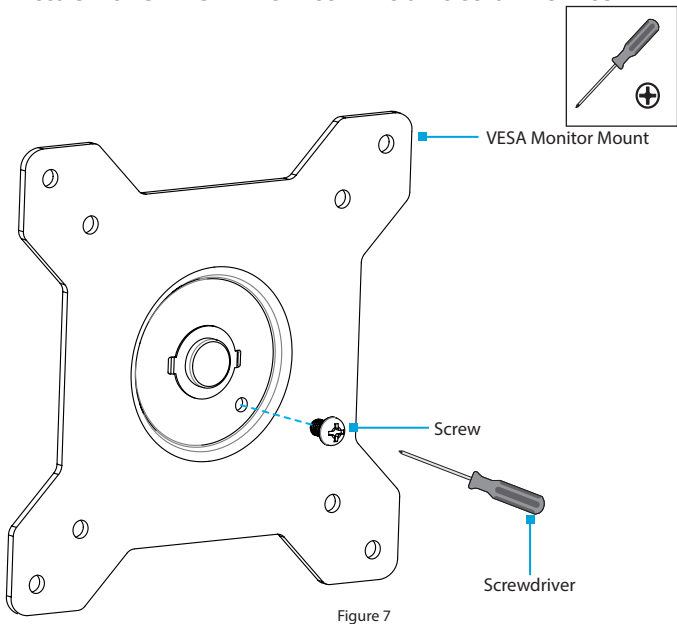

Figure 7
1. To enable 360 degree rotation of the **Monitor**, remove the **Screw**, located in the **VESA Monitor Mount**, using a **Phillips Head Screwdriver**. (Figure 7)